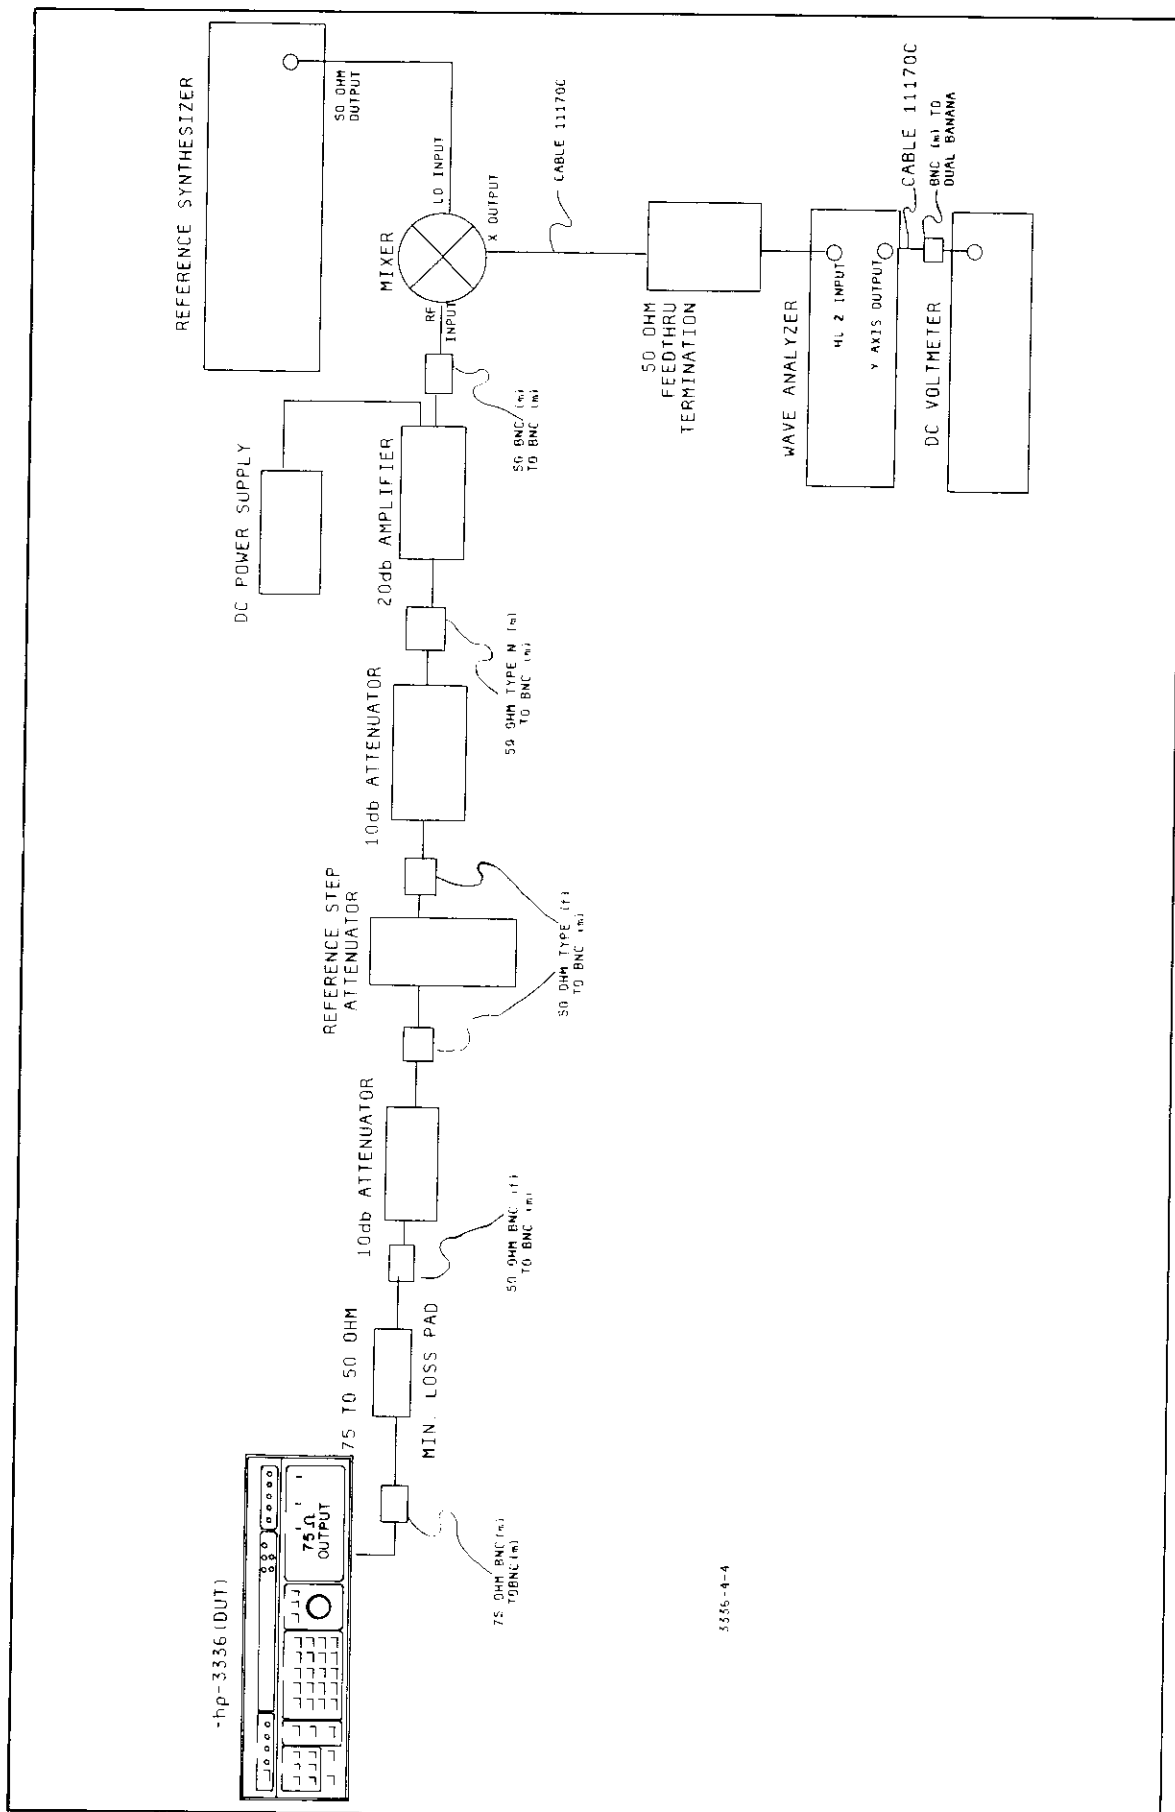
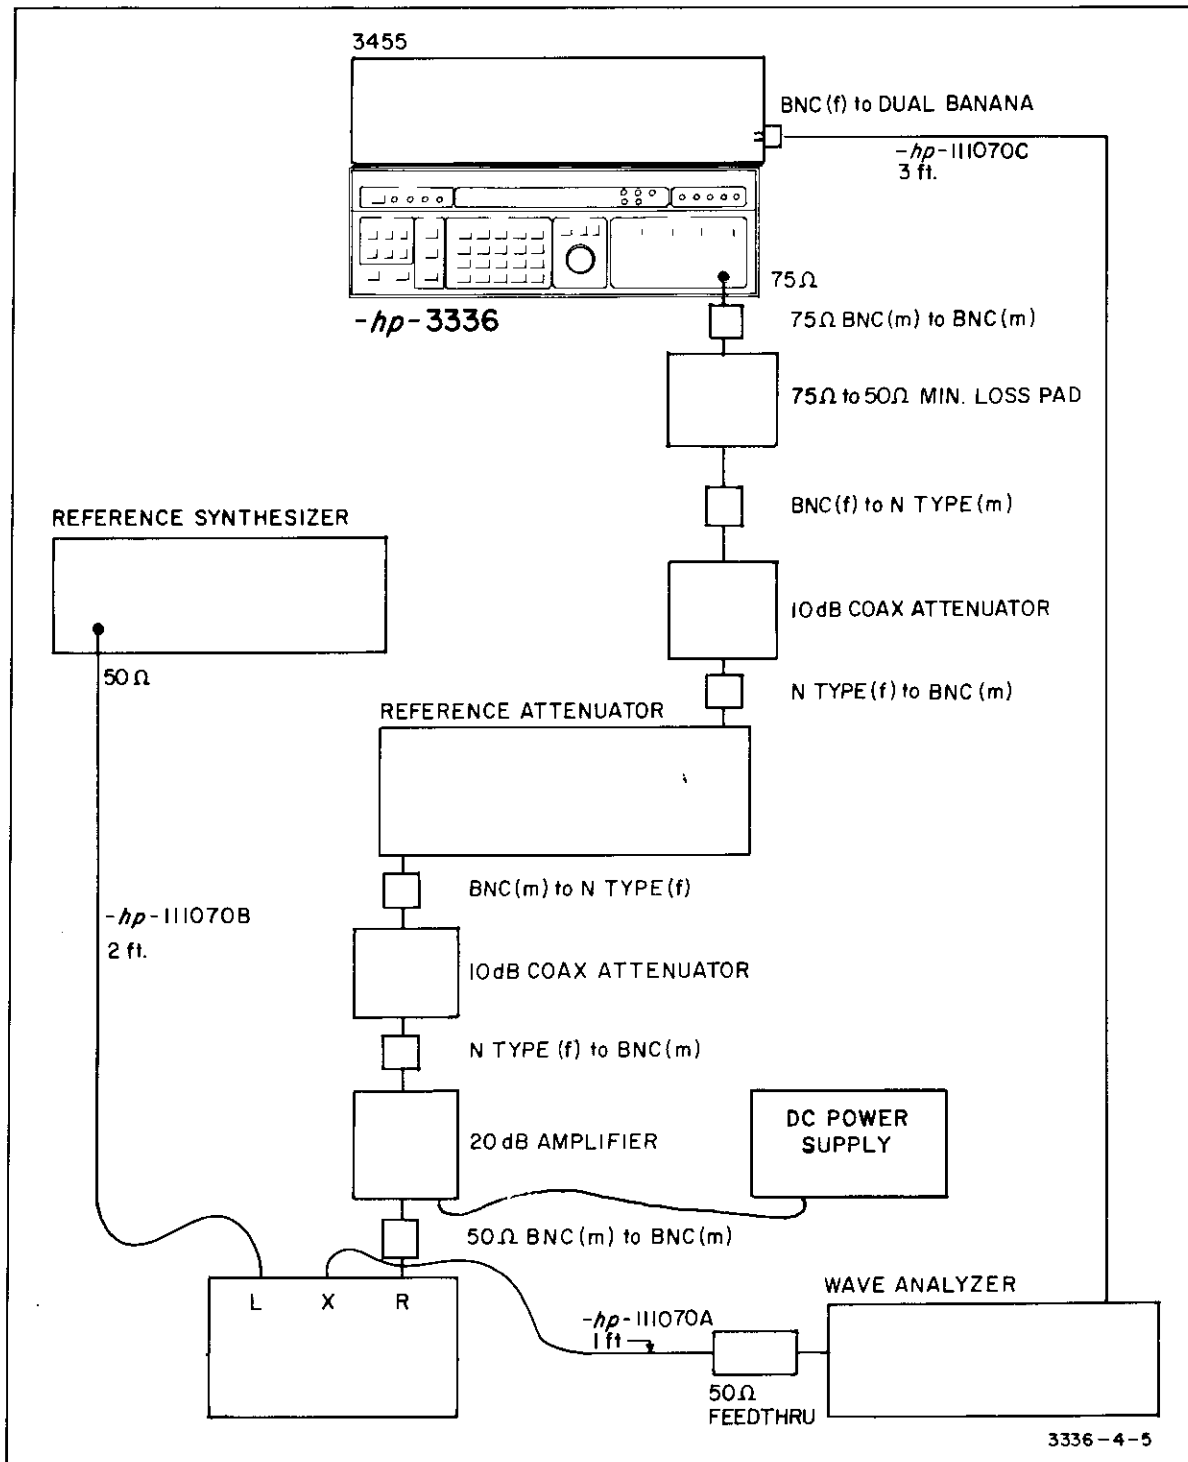

Figure 4-4. Equipment Set Up for Attenuator Accuracy Test
Figure 4-5. Physical Location for Attenuator Accuracy
- a. Connect the equipment electrically as shown in Figure 4-4 and physically as shown in Figure 4-5.
The quality of the test results depends upon the equipment arrangement. It is important that the physical location of the instruments be as shown in Figure 4-5. Do not cross cables. Allow the Q-Bit Amplifier 30 minutes to warm-up.